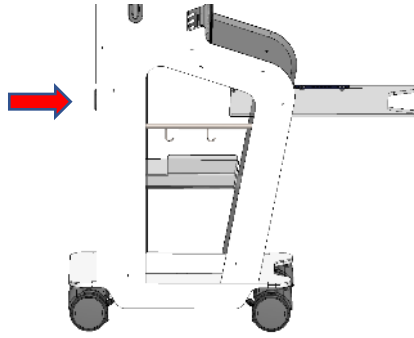

Figure 155: Disassembling the shelf (2/3)
- While holding the stop up, slide the shelf forward (See Figure 155)